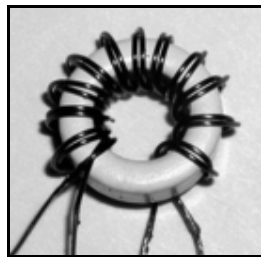

Figure 9
- Wind 12 turns of the twisted wires onto the large ferrite core (FT50-43). The turns should cover about 80-90% of the core, as shown in Figure 9 (a white core was used to highlight the winding).